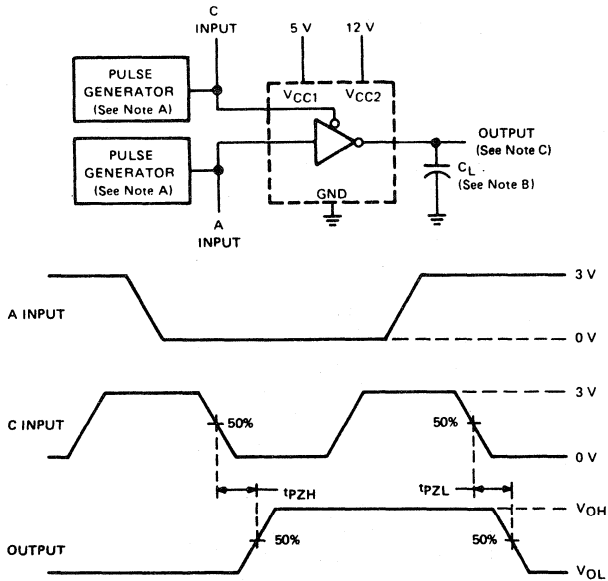

FIGURE 2—TEST CIRCUIT AND VOLTAGE WAVEFORMS FOR t_{pZH} AND t_{pZL}
- NOTES: A. The pulse generators have the following characteristics: PRR = 1 MHz, (2 MHz for C input in Figure 2), $Z_{out} = 50 \Omega$.